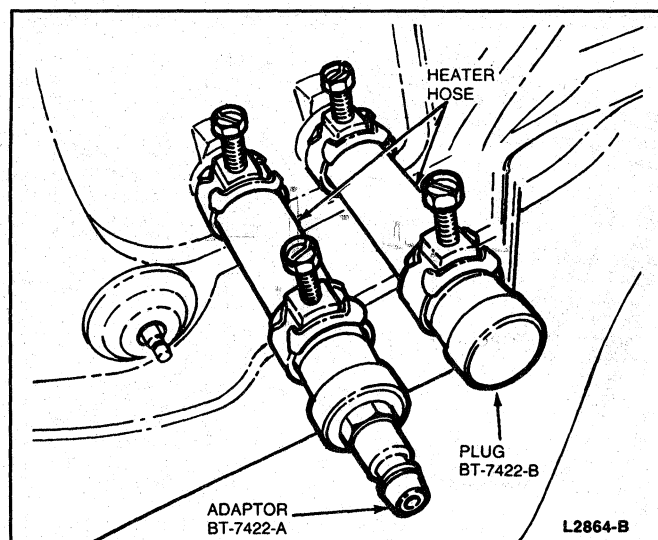

FIG. 10 Heater Hose with Plug and Adapter Installed
4. Fill heater core and hoses with water and install Plug BT-7422-B and Adapter BT-7422-A from Rotunda Pressure Tester, 021-00012 or equivalent in hose ends (Fig. 10). Secure hoses, plug and adapter with hose clamps.